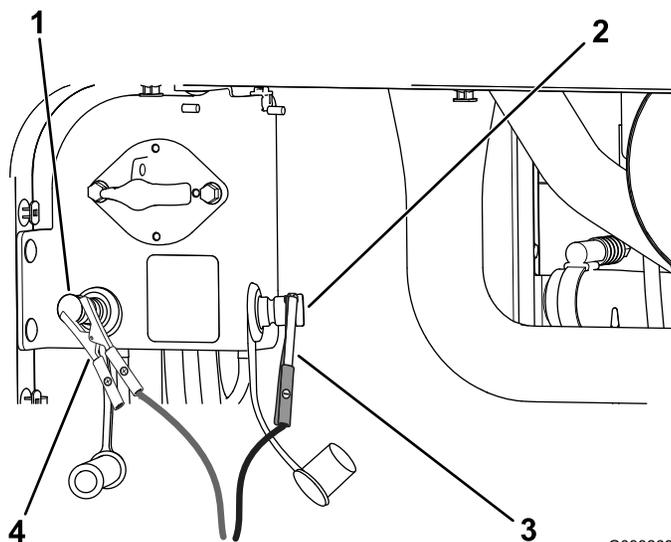

Figure 116
- Connect the positive (+) jumper cable to the positive jump post (Figure 116).
- Connect the negative (-) jumper cable to the negative jump post (Figure 116).
- When the engine starts, have the other person disconnect the negative (-) jumper cable from the negative jump post and then disconnect the positive (+) jumper cable (Figure 116).